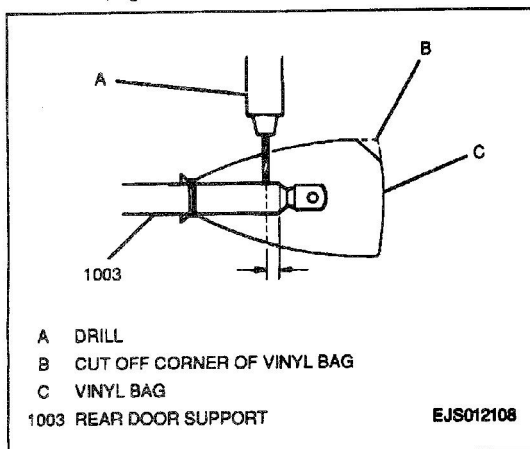

Figure 12—Discarding Rear Door support
- D. Release gas pressure by drilling a 2 to 3 mm (0.08 to 0.12-inch) hole through the vinyl bag and into the support (Figure 12).